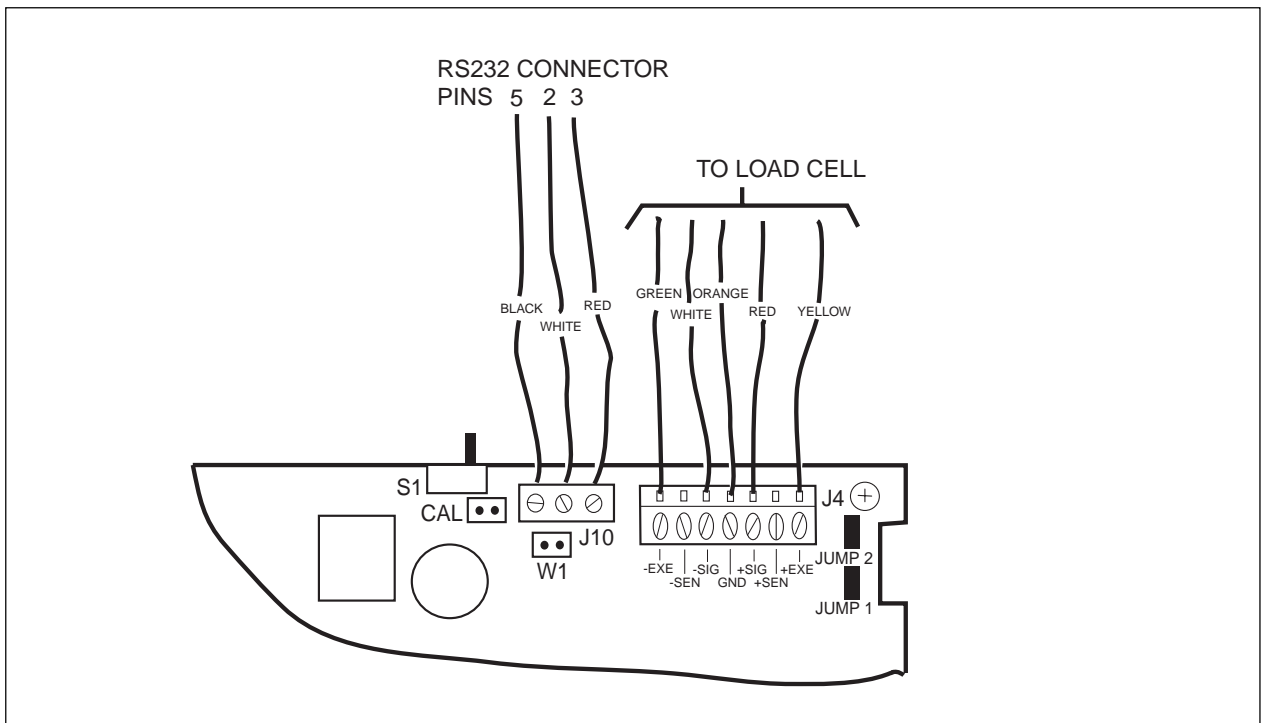

Figure 4-9. RS Connector and Loadcell Connector Wiring.
- Carefully remove the wires coming from J10 which is the RS232 connector and J4 which is used to connect the loadcell. See figure 4-9 for wire color and locations.
5. Carefully remove the wires coming from J4 which is used to connect to the loadcell. See figure 4-9 for wire color and locations.
9. Connect the color coded wiring from the loadcell to connector J4. Check that color coded wiring is correctly installed. See Figure 4-9.